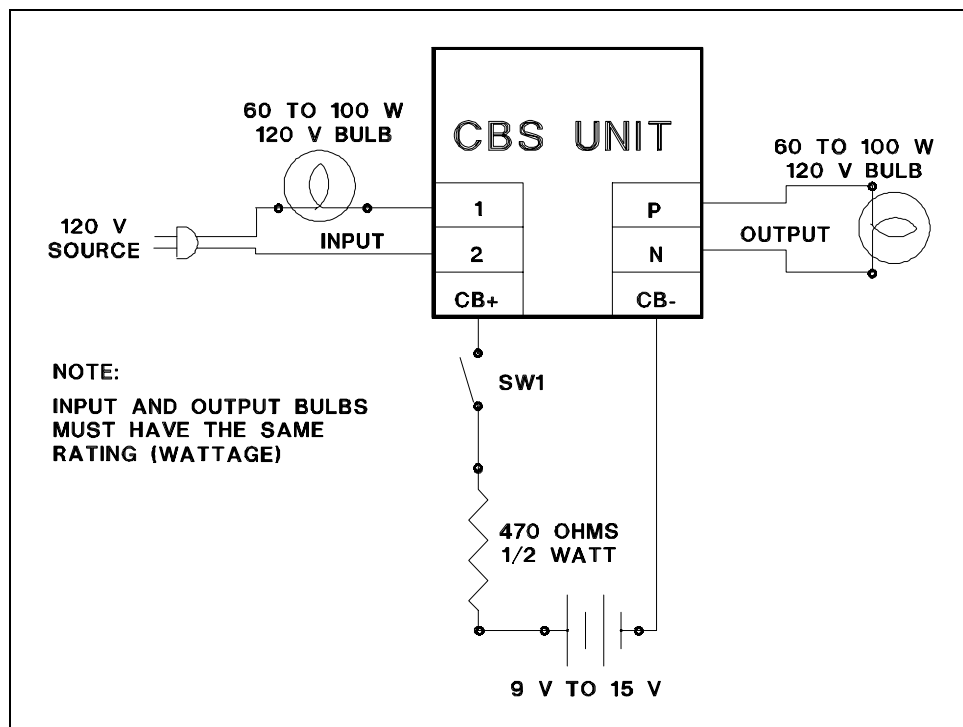

Figure 3-1. Bench Test Interconnection
a. Connect the CBS in accordance with Figure 3-1.